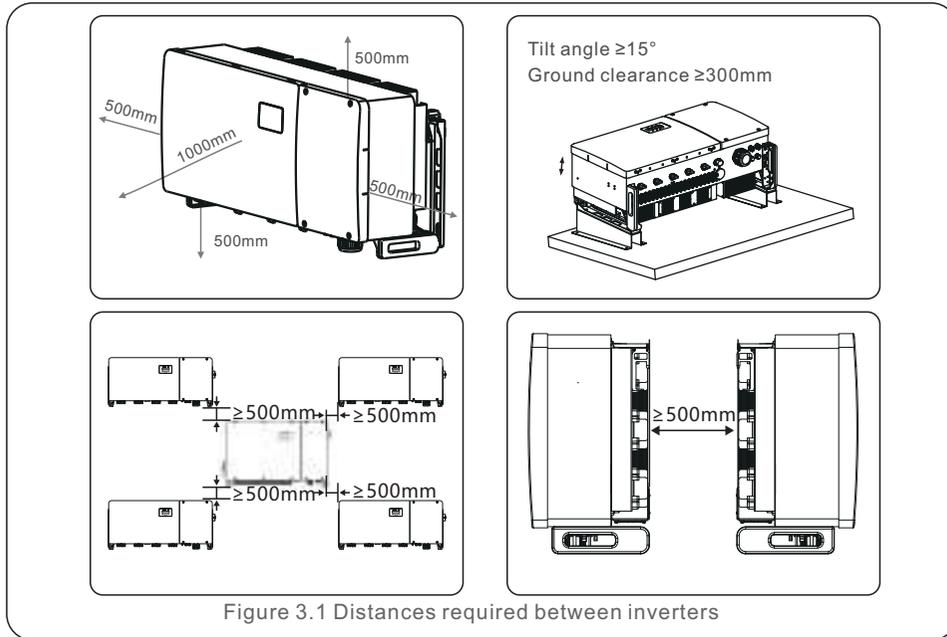

Figure 3.1 Distances required between inverters
- If multiple inverters are installed on site, a minimum clearance of 500mm should be kept between each inverter and all other mounted equipment. The bottom of the inverter should be at least 500mm above of the ground or floor (see Figure 3.1).
If multiple inverters are stacked, the figure 3.1 shows the installation distance between inverters. When the inverters are installed back-to-back, the distance between the two inverters must be at least 500mm.